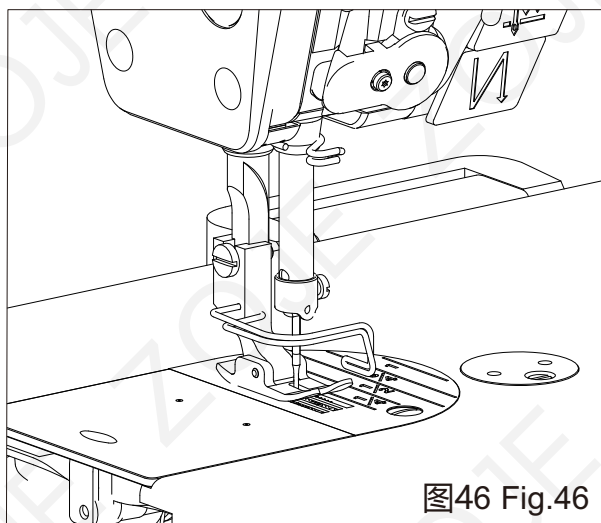

图46 Fig.46
35 高度传感的调节(图46、图47) Adjustment of height sensing(Fig. 46, Fig. 47)
开机，按住P键进入，找到P42-N13，按S进入。转动手轮，直到牙齿完全没入针板(如图46)。调整传感器①位置，同时查看P42-N13显示值，调整直到数值显示 1010 ± 5 ，拧紧两螺钉。(如调整传感器①无法成功，可同时调整磁铁②的位置。
Turn on the machine, press and hold the P key to enter, find P42-N13, press S to enter. Turn the handwheel until the feed dog is completely submerged into the needle plate (as shown in Figure 46), adjust the position of the sensor ①, and at the same time check the P42-N13 display value to adjust until the value shows 1010 ± 5 , and tighten the two screws. (If the adjustment of the sensor ① cannot be successful, the position of the magnet ② can be adjusted at the same time.)